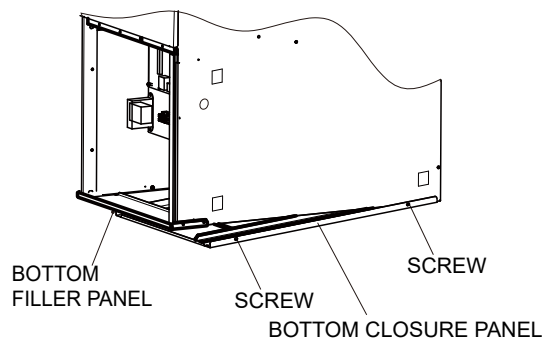

Fig. 6-1 Removing Bottom Closure Panel
1. Tilt or raise furnace and remove the screw holding bottom filler panel. (See Fig. 6-1.)
These furnaces are shipped with bottom closure panel installed in bottom return-air opening. Remove and discard this panel when bottom return air is used. See 6.1 and Fig. 6-1 for bottom closure removal.